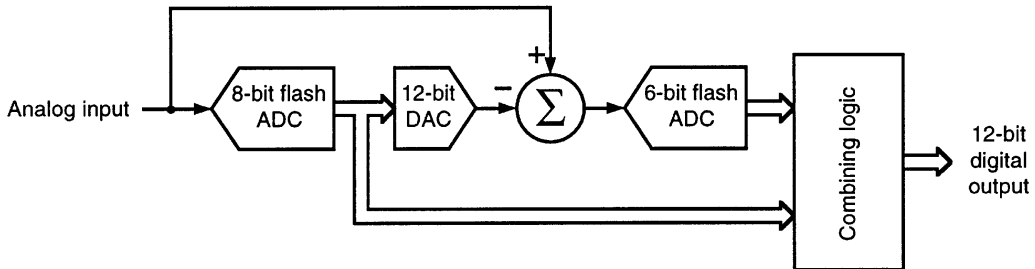

**FIGURE 85.11** A successive-approximation converter has only one comparator and relies on an internal, precision DAC for linearity.
*Successive-approximation register (SAR)* ADCs are the most common ADCs, having resolutions of 8 to 16 bits and speeds of 1 MS/s and below. They are generally low in cost, and they typically have very good integral linearity. The  $n$ -bit SAR ADC contains a high-speed  $n$ -bit DAC and comparator in a feedback loop (see Figure 85.11). The successive-approximation register sequences the DAC through a series of  $n$  “guesses,” which are compared with the input voltage (Figure 85.12). As the conversion progresses, the register builds the  $n$ -bit binary conversion result out of the comparator outputs. By the end of the sequence the register has converged to the closest DAC value to the input voltage.